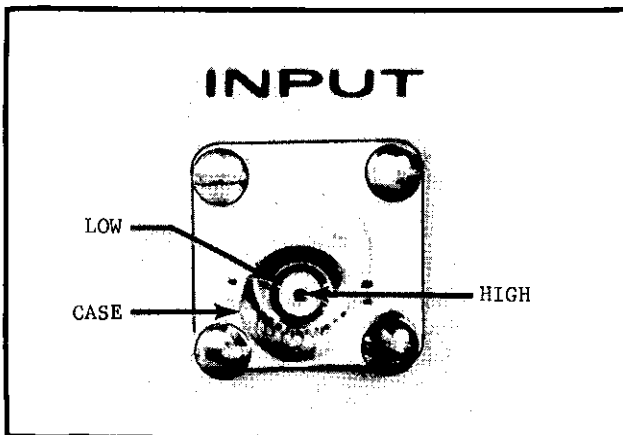

FIGURE 4. Triaxial Receptacle.
a. Input Receptacle. The input connector (J1213) on the rear panel is a Teflon-insulated triaxial type (Keithley Part No. CS-181). The center terminal is the High Impedance terminal; the inner shield is the Low Impedance terminal; and the outer shield is Case Ground as shown in Figure 4. The rear panel LO terminal is connected to the Low Impedance terminal. When the "shorting link" on the rear panel is connected between LO and GND, the Low Impedance Terminal is then at chassis ground for non-floating applications. The rear panel "GND" terminal (J1217) can be used for connections to system ground.